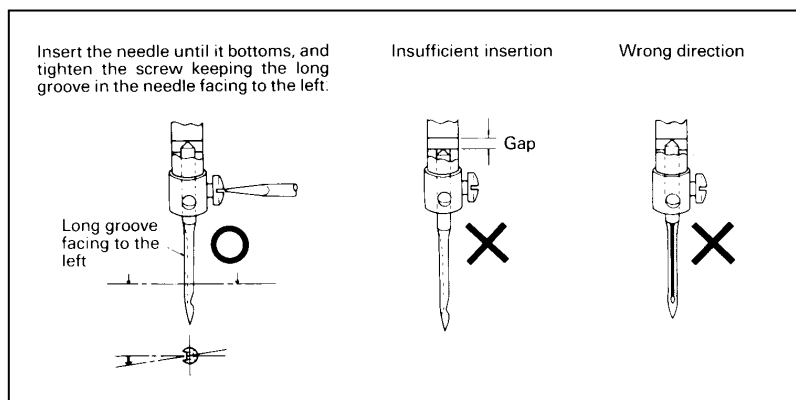

Fig.14
17、 How to attach a needle (Fig.14):